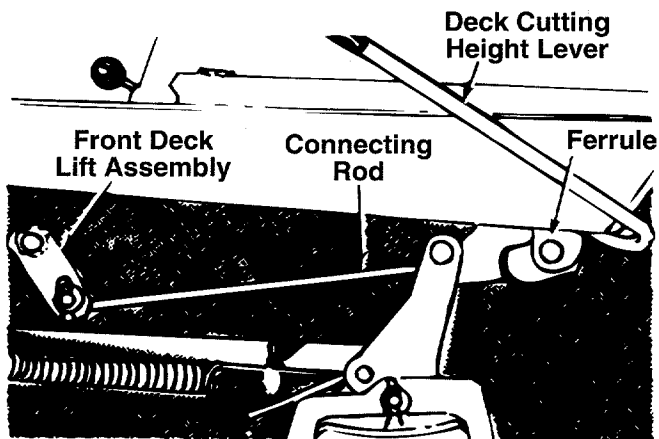

FIGURE 22.
2. Remove the hairpin cotter and flat washer which hold the deck lift connecting rod to the front deck lift assembly. See figure 22.
3. Remove the connecting rod from the deck lift assembly and thread it in or out of the ferrule as necessary. See figure 22. Replace the rod.